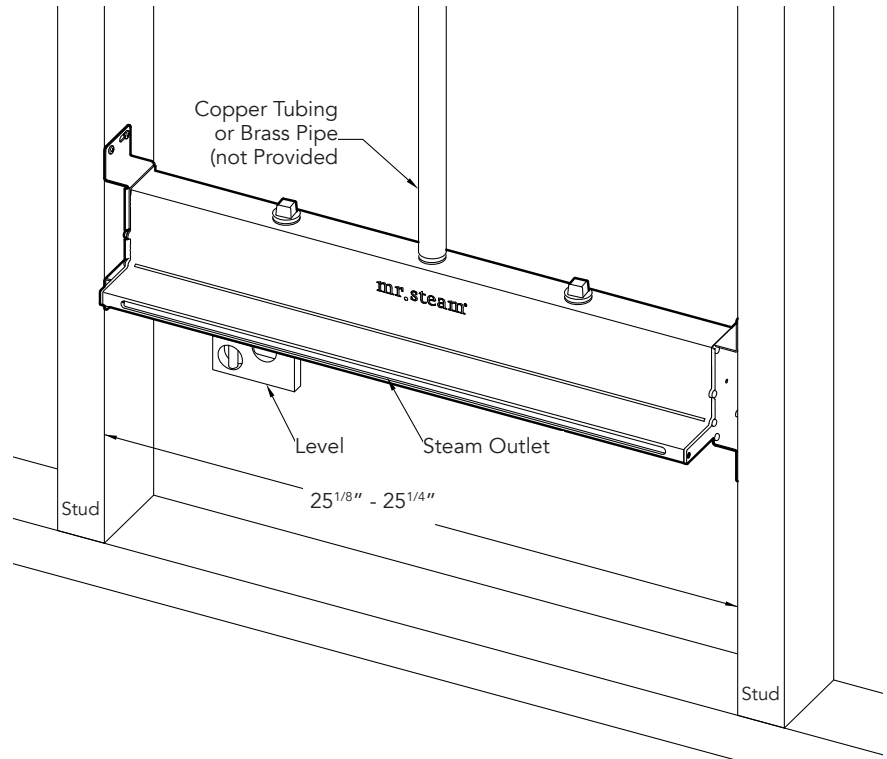

Figure 3
CAUTION Only install the linear steam head in a horizontal orientation as shown in fig 3. Failure to follow these instructions may result in a leak within the wall cavity and cause problems associated with leaks, moisture and property damage from leaks. Failure to follow these instructions may result in a hazardous condition, scalding or personal injury.
STEP 4. Position steam head between 2 appropriately spaced studs. Use a level to ensure the steam head is level (see Fig. 3). Install four screws in mounting holes to secure the steam head to the studs.